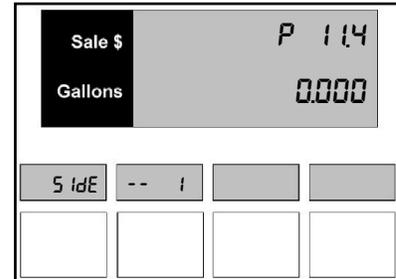

Figure 4.1 – Program PPV
1. Press the **4** button and then the **Mode** button on the keypad. The individual PPV display for Product 1 appears as shown in *Figure 4.1*. The main display shows that Product 1, Tier 1 in Code 4 is active.